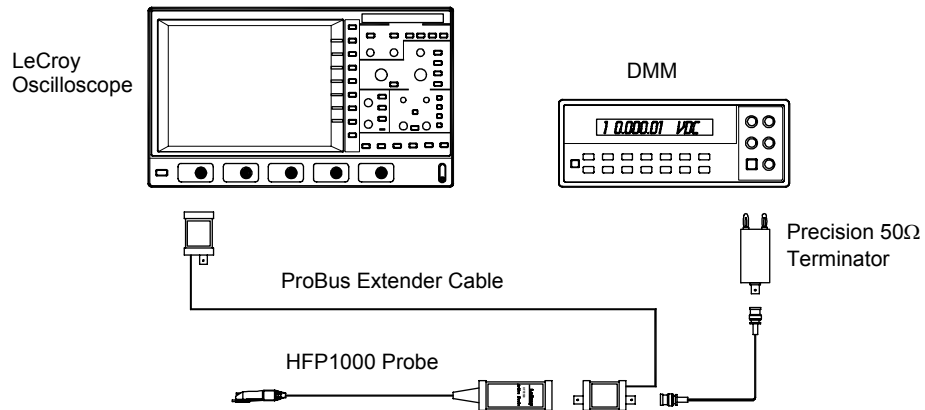

Figure 8-1. Output Zero Voltage Adjustment Setup
2. Connect the banana plugs of the precision 50 Ω terminator to the input of the DMM. Make sure the plug corresponding to the BNC shield (marked 'Ground') is connected to the **LO** or **COM-MON** input of the DMM. Refer to figure 8-1 for setup information.